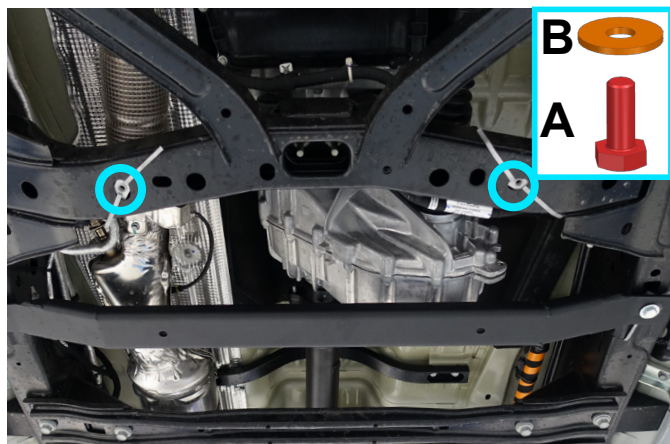

Fig. 6
4. Loosen bolts M10x30 (item A) and washers 10 (item B) in front mounting points (Fig.6).